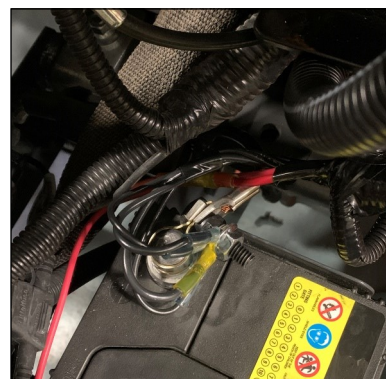

Fig. 7.17 (Connect Ground Wires)
- 7.17 See fig. 7.17. Install the 4 ring terminals on the black ground wires to the battery bolt and secure with an additional nut.